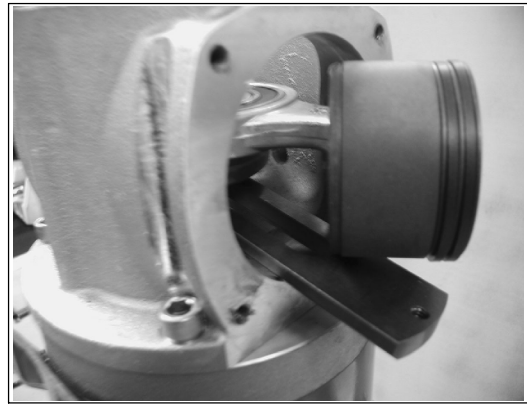

Figure 72 Puller Plate Positioning
9. Insert the puller plate beneath the piston as shown in Figure 72. Rotate 90 degrees around the shaft.